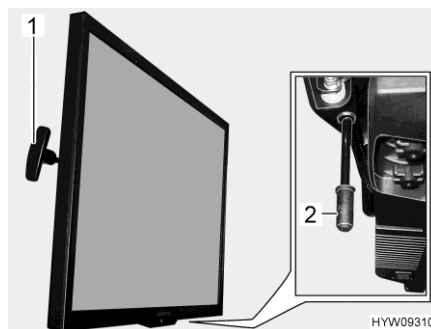

Fig. 97 Flat screen
- Pull and hold handle (Fig. 97,1). The flat screen is unlocked.
- Pull down the handle (Fig. 97,2) and hold it there. The flat screen is unlocked.